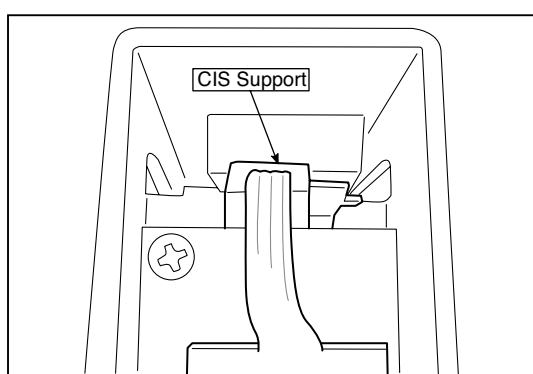

Fig.22
* The CIS Unit with a CIS Support (see Fig. 22) is located in the upper position.